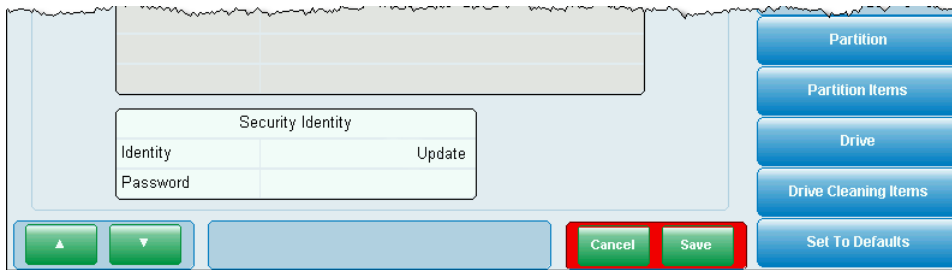

Figure 7-39 Cancel and Save buttons
4. Note that changes to the screen will not be saved until the Save button is pressed. Pressing the Cancel button will remove all of the current editing and revert to the last saved version of the screen. The new password will not take effect until the Save button is pressed on the Configuration/Library/Identification and Security screen as shown in Figure 7-39.